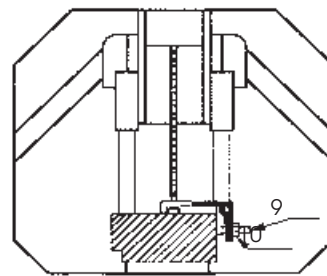

Fig. 5
- a) Loosen locknut, item 10, Fig. 5 (53) and turn screw, item 9, Fig. 5 (54) anticlockwise one full turn, tighten locknut.
- c) When satisfied the truck is lifting and raising properly, tighten the locknut item 10, Fig.5.